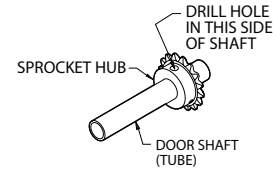

Figure 3A
- 1) Use non-threaded hole in door shaft sprocket as a guide and drill a 3/8" diameter hole through one side of the door shaft. **Fig. 3A.**